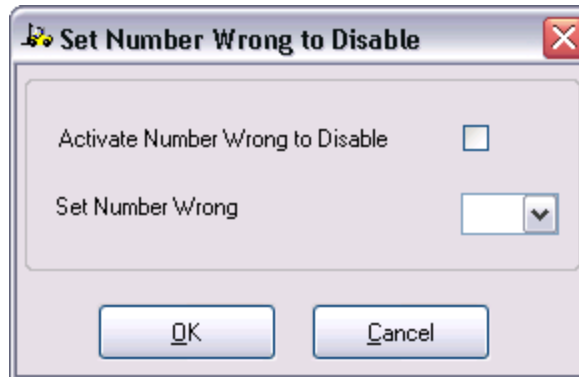

Figure 26: Set Number Wrong to Disable dialog box
1. Select **Truck Configuration >> Password Management >> Set Number Wrong to Disable**. The Set Number Wrong to Disable dialog box is displayed (Figure 26).